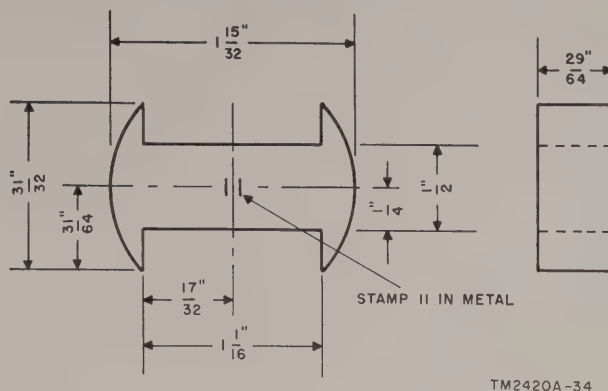

Figure 31. Yoke.
c. Yoke (fig. 31).
- (1) Cut a $3\frac{3}{4}$ -inch piece of cold rolled steel from a length of $1\frac{3}{4}$ -inch stock.
- (2) Turn the stock to a diameter of $1\frac{1}{2}$ -inch on a metal lathe.
- (3) Cut the steel disk to a thickness of $2\frac{9}{64}$ -inch on a milling machine.
- (4) Shape the disk as illustrated in figure 31 with a milling machine.
- (5) Be sure to remove all burs and filings from the yoke.
- (6) Cadmium plate the completed yoke.